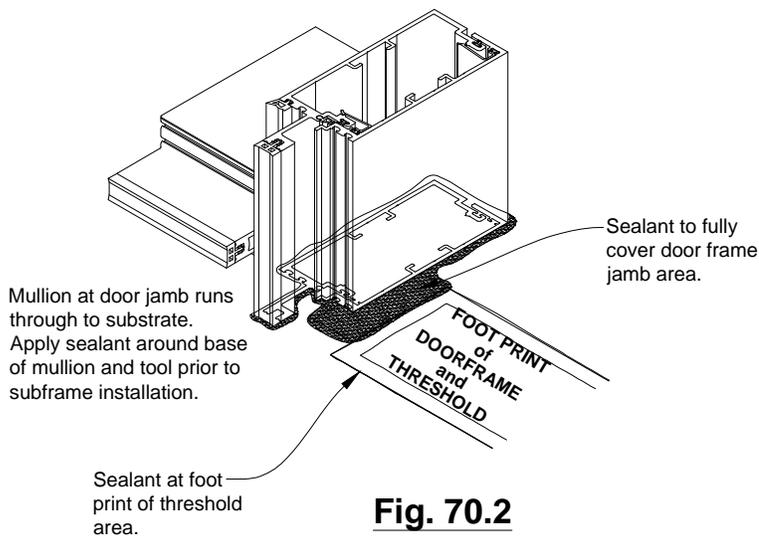
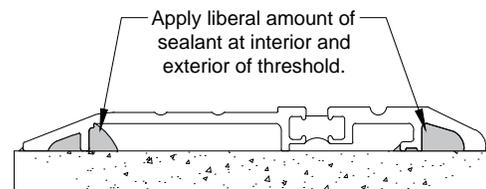

Fig. 70.2
Fig. 70.3
- Prior to installing the sub frame, lay down a bed of sealant where the threshold will be installed. See Fig. 70.2 and Fig. 70.3.